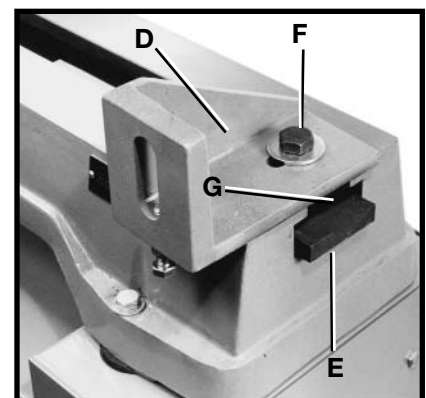

Fig. 11
4. Insert clamping plate (E) Fig. 11 of mounting bracket assembly (D) into channel (G) on tailstock end of lathe bed. **NOTE:** Loosely-tighten mounting hardware (F).